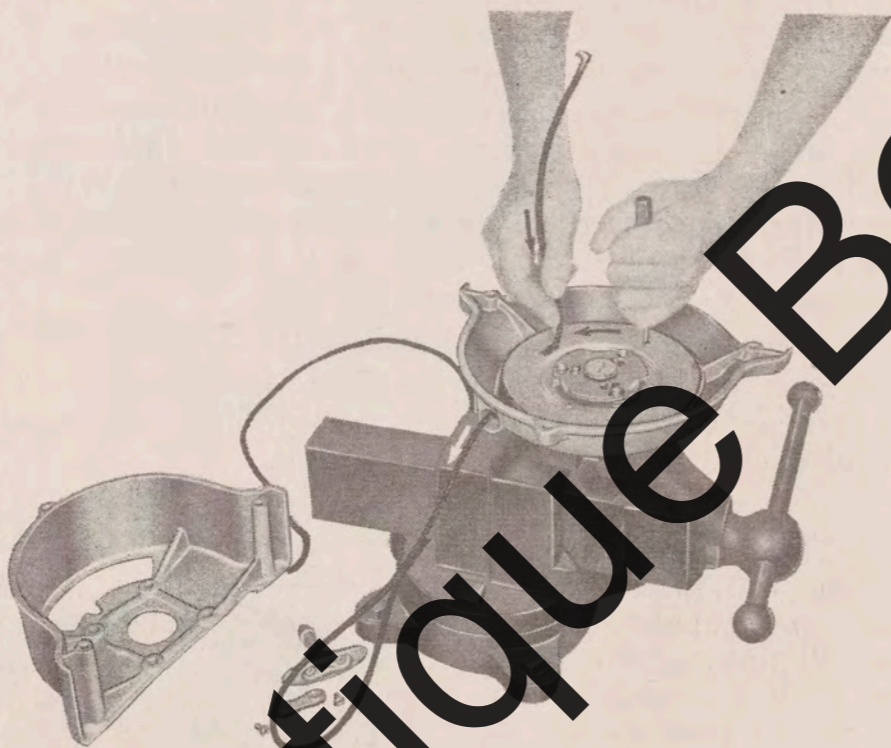

Fig. 10
5. Insert punch in hole of pulley provided for this purpose. Turn pulley against tension of spring, as indicated by arrow in Fig. 10 until all of tension is taken up, then permit pulley to unwind one (1) turn.